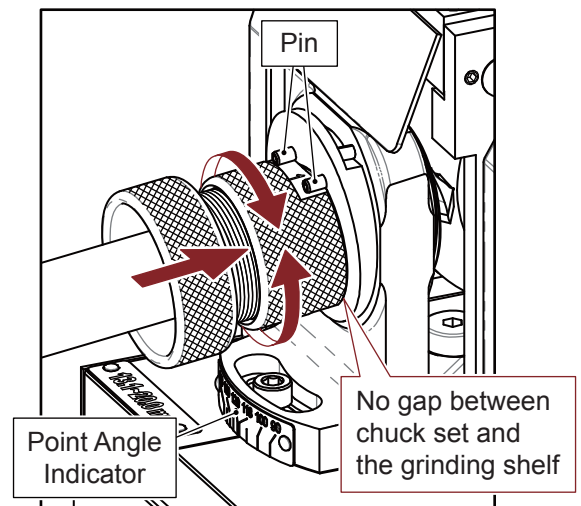

Fig. 9-1
1. Cutting Lip Grinding (Fig. 9-1)
① Insert the chuck set into the cutting lip grinding shelf, the slot of clamping nut must fit with the two pins on the shelf, push the chuck set gently and turn it clockwise and counterclockwise until the grinding noise stops.
② Take the chuck set out, turn it to the other side and grind the drill in the same way.